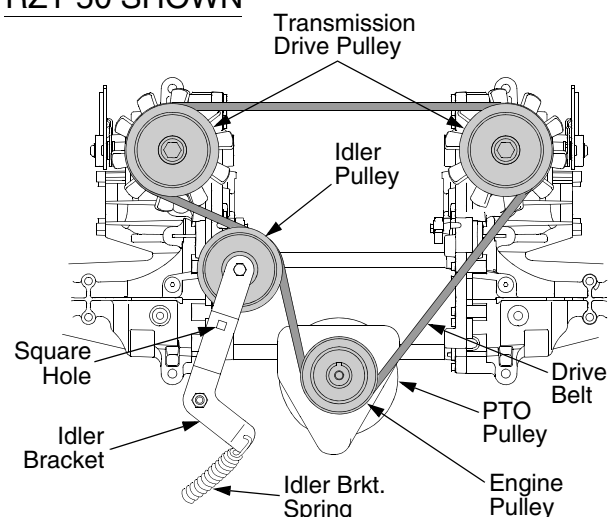

Figure 29
- From beneath the rear of the tractor, insert a 3/8 inch drive ratchet into the square hole of the drive idler bracket. See Figure 29.